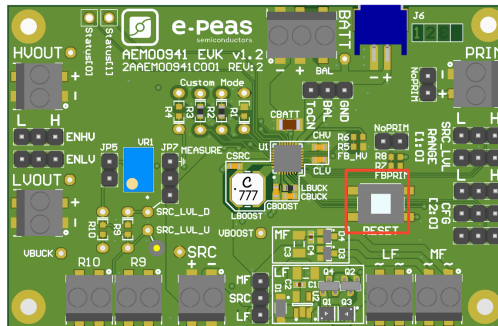

Figure 2: Board Reset
1. Reset the board - see “How to reset the AEM00941 evaluation board” on Figure 2.